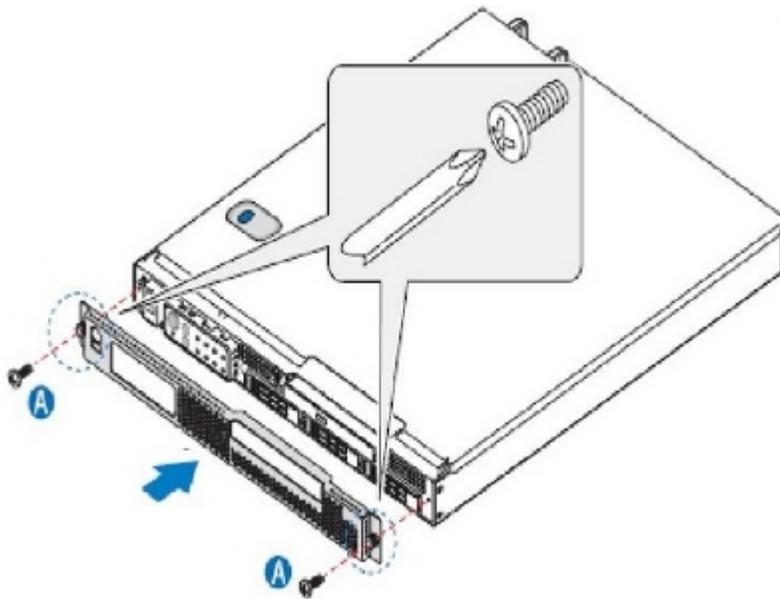

Figure 26: Replacing the Front Bezel
1. Replace the front bezel, insert the screws (“A” in Figure 26: Replacing the Front Bezel), and tighten them far enough to hold the bezel in place.